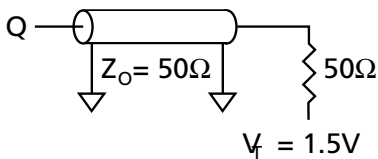
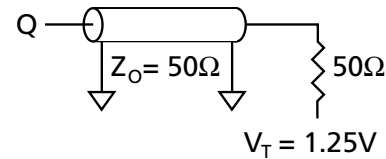

Figure 1
Figure 3
1. Test conditions as specified with the output loading shown in Figure 1 for 3.3V I/O ($V_{DDQ} = +3.3\text{V} +0.3\text{V}/-0.165\text{V}$) and Figure 3 for 2.5V I/O ($V_{DDQ} = +2.5\text{V} +0.4\text{V}/-0.125\text{V}$) unless otherwise noted.
| Output load | See Figures 1 and 2 |
| Output load | See Figures 3 and 4 |